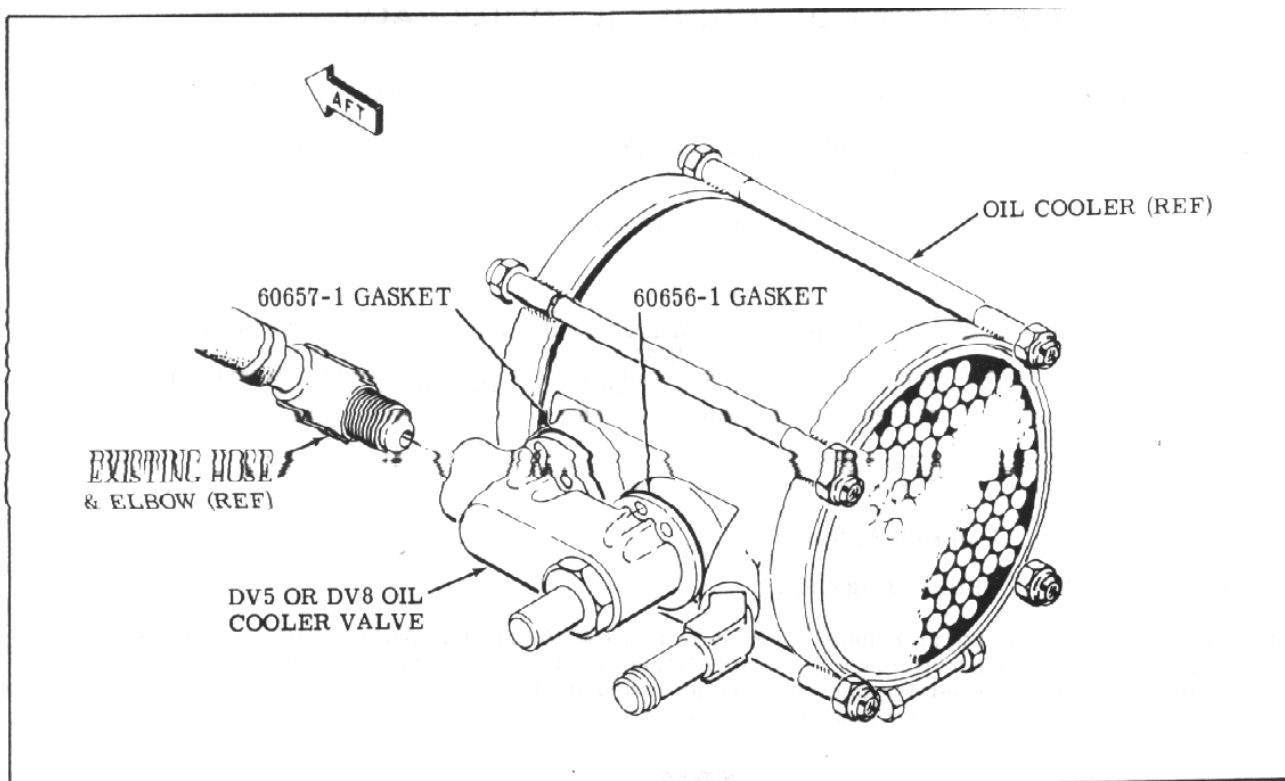

Figure 1.
5. Remove and discard existing valve, thermostat and valve gaskets from engine oil cooler (see Figure 1.).
6. Install DV5 or DV8 oil cooler valve, 60656-1 gasket and 60657-1 gasket on oil cooler using existing hardware and safety wire attaching screws with 0.032-inch diameter stainless steel safety wire (see Figure 1.).